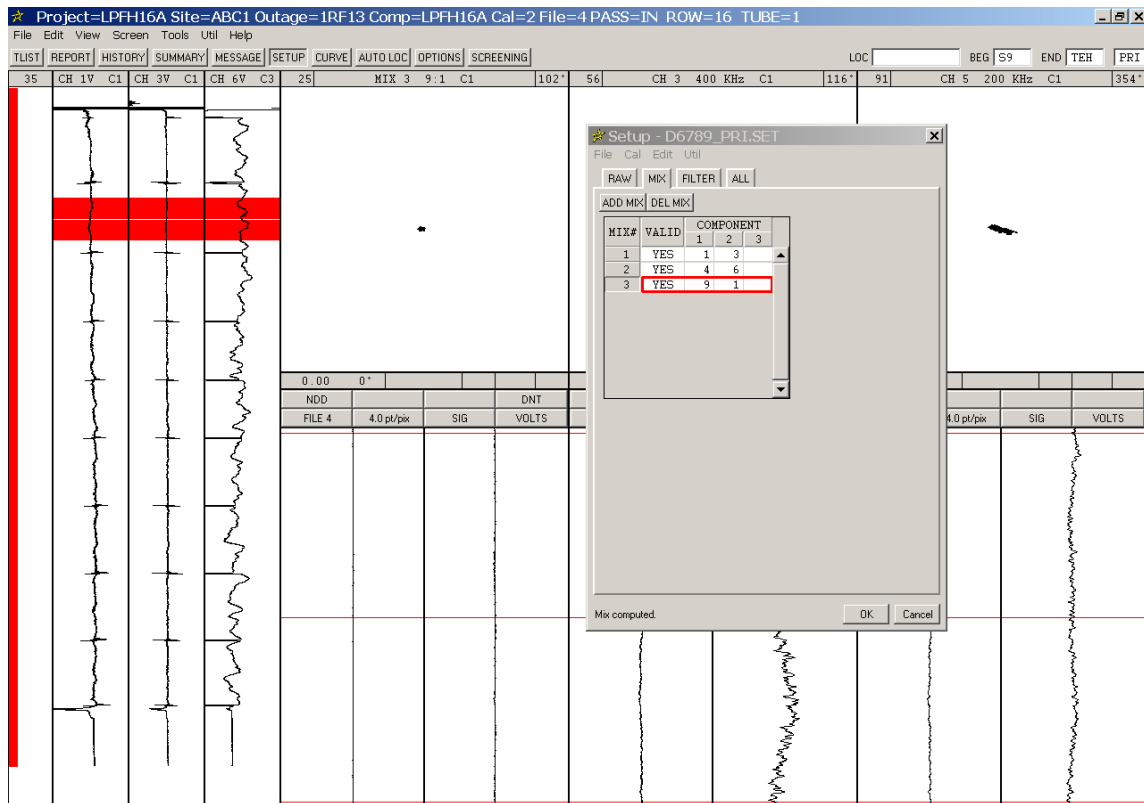

Figure 1-17. Setup Dialog - Mix Tab After Mixing Out Noise
- STEP 19:** Click the **Valid** field (*red*) for **Mix # 3**. The field turns white and displays Yes. The differential noise mix is now completed as shown in Figure 1-17.